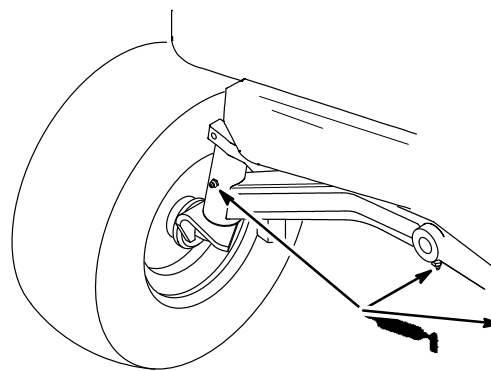

Figure 35
1. Lubricate the left-hand and right-hand spindles until grease begins to ooze out of the bearings (Fig. 35).
2. Lubricate the front axle pivot (Fig. 35).